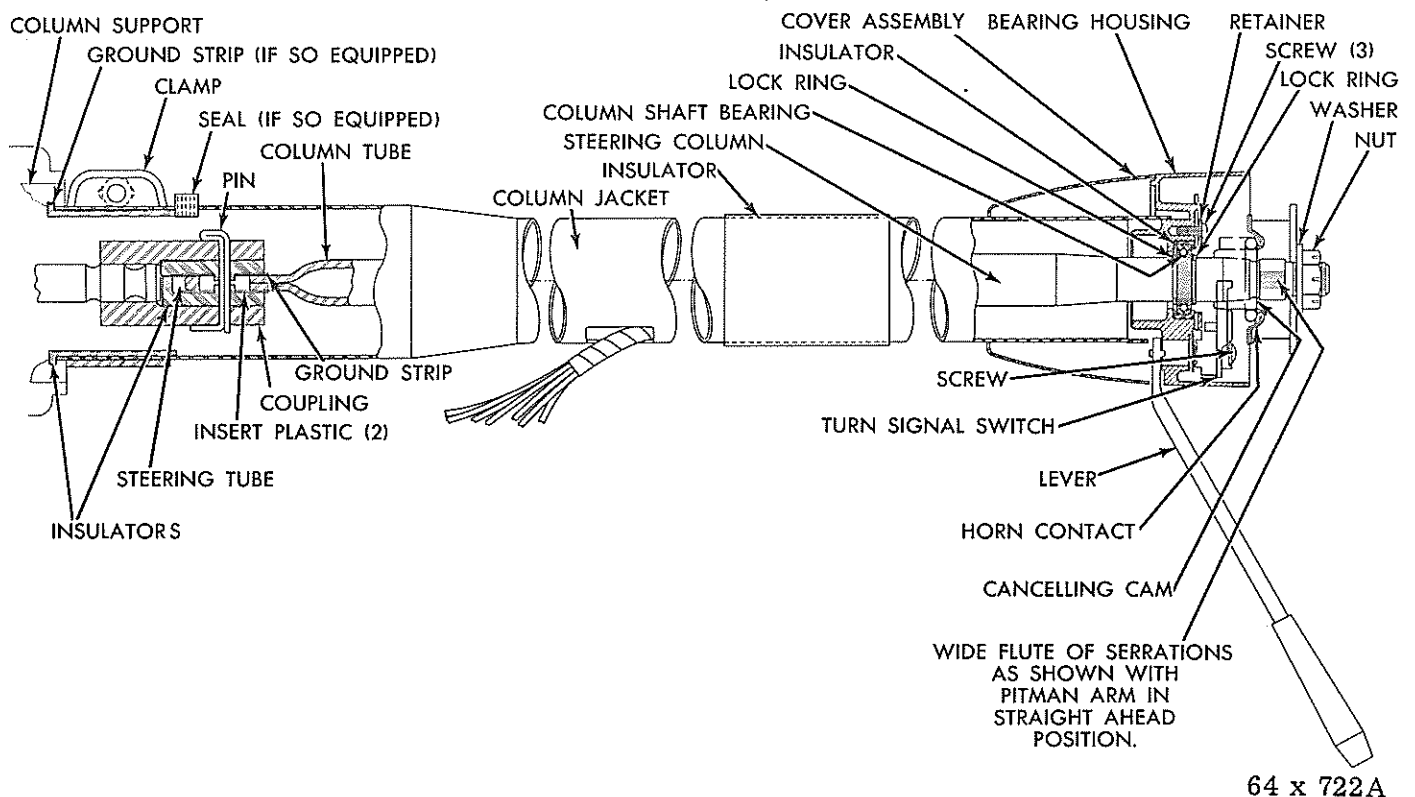

Fig. 14 - Steering Column Cross Section (Except adjustable steering wheel)
- (1) Disconnect the negative (ground) cable from the battery.
- (2) Compress and turn the horn button 1/4 turn counterclockwise to release the horn button from the retainer.
- (3) Disconnect the horn wire at the horn blowing switch.
- (4) Remove the three (3) screws and insulators attaching the horn ring and horn blowing switch to the steering column. Remove the horn ring and switch.
- (5) Loosen the steering wheel nut several turns and install the steering wheel puller Tool C-3428A and remove the steering wheel nut and steering wheel.
- (6) Remove the two bolts attaching the steering jacket tube clamp at the instrument panel and remove the clamp.
- (7) Disconnect the directional switch wiring at the multiple connector below the instrument panel.
- (8) Remove the screws attaching the floor plate seal to the floor panel and slide the seal up on the jacket tube.
- (9) Loosen the jacket tube clamp bolt and clamp at the steering gear housing (Fig. 14).
- (11) Reinstall the steering wheel nut on the upper steering tube to protect the threads. Then while pulling up on the jacket tube, tap the steering wheel nut with a fibre hammer. This action will force the bearing from the splines on the steering tube.
- (12) Pry between the jacket tube clamp and the steering gear housing to loosen the jacket tube from the column jacket support rubber insulator boot.
- (13) Slide the jacket tube assembly rearward and off the steering tube.
- (14) Remove the steering column tube coupling pin, two plastic inserts, horn ground strap (Fig. 14) rubber insulator and the steering column tube.
- (15) Remove the rubber insulator boot and the horn ground strap.
- (1) Enter the steering gear assembly into the engine compartment, position in place and install attaching bolts, flat washers, swivel washers and nuts, tighten finger tight.
- (2) Inspect the steering tube bearing for any damage incurred during removal from the steering tube.
- (3) Install the steering column tube, the two plastic inserts, rubber insulator, horn ground strap and coupling pin (Fig. 14).
- (4) Assemble the horn ground strap (copper) to the jacket tube support rubber insulator boot and install this assembly into the jacket tube.
- (5) Lubricate (powder lubricant) the end of the steering gear column jacket support and insulator boot to facilitate the installation and slide the jacket tube and insulator boot over the steering column tube and down against the shoulder on the jacket tube support. Position the clamp and tighten the clamp bolt securely.